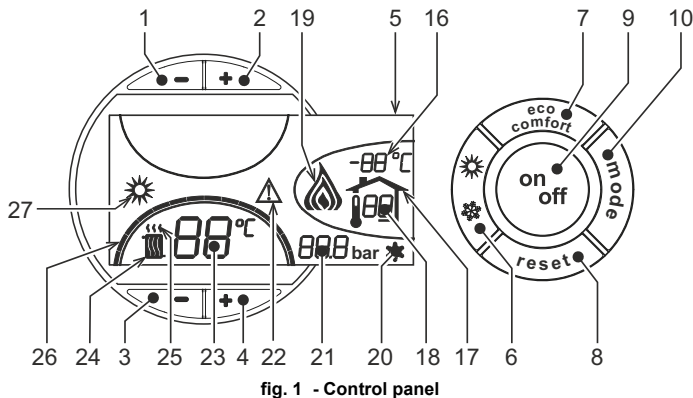
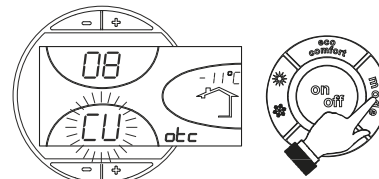
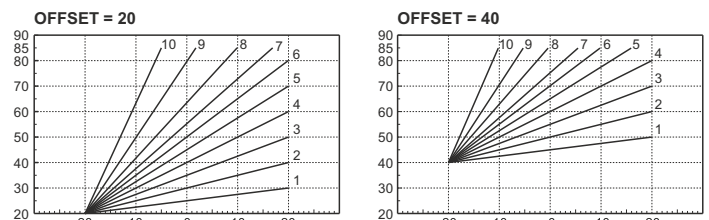

fig. 1 - Control panel
fig. 9 - Compensation curve
fig. 12 - Example of compensation parallel curve offset
Press the **on/off** button (detail 9 - fig. 1) for 1 second.
To relight the boiler, press the **on/off** button (detail 9 - fig. 1) again for 1 second.
- Press the ON/OFF button (9 - fig. 1)
Press the **summer/winter** button (detail 6 - fig. 1) for 1 second.
The display activates the Summer symbol (detail 27 - fig. 1): the boiler will only deliver domestic hot water. The antifreeze system remains activated.
To deactivate the Summer mode, press the **summer/winter** button (part. 6 - fig. 1) again for 1 second.
Use the **heating** buttons (details 3 and 4 - fig. 1) to adjust the temperature from a min. of 30°C to a max. of 80°C.
Use the DHW buttons -/+ (details 1 and 2 - fig. 1) to adjust the temperature from a min. of 10°C to a max. of 65°C.
When the optional external probe is installed the control panel display (detail 5 - fig. 1) shows the actual outside temperature read by the probe. The boiler control system operates with "Sliding Temperature". In this mode, the temperature of the heating system is adjusted according the outside weather conditions, in order to ensure high comfort and energy saving throughout the year. In particular, as the outside temperature increases, the system delivery temperature is decreased according to a specific "compensation curve".
With Sliding Temperature adjustment, the temperature set with the heating buttons -/+ (details 3 and 4 - fig. 1) becomes the maximum system delivery temperature. It is advisable to set a maximum value to allow system adjustment throughout its useful operating range.
Press the **mode** button (detail 10 - fig. 1) once to display the actual compensation curve (fig. 9), which can be modified with the **DHW** buttons (details 1 and 2 - fig. 1).
Press the **heating** buttons (details 3 and 4 - fig. 1) to access parallel curve offset (fig. 12), modifiable with the **DHW** buttons (details 1 and 2 - fig. 1).
Press the **mode** button (detail 10 - fig. 1) again to exit parallel curve adjustment mode.
If the Remote Timer Control (optional) is connected to the boiler, the above adjustments are managed according to that given in table 1. Also, the control panel display (detail 5 - fig. 1) shows the actual room temperature detected by the Remote Timer Control.
| Eco/Comfort selection       | On disabling DHW from the Remote Timer Control menu, the boiler selects the Economy mode. In this condition, the button 7 - fig. 1 on the boiler panel is disabled.                                   |